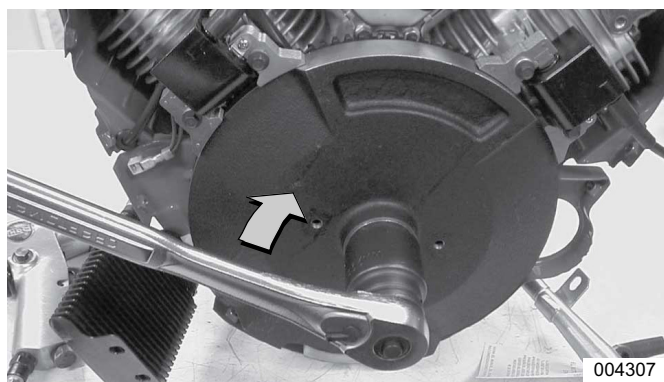

Figure 4-16. Tighten Flywheel Nut
4. See Figure 4-16. Tighten flywheel nut to 150 ft lb (204.0 Nm) torque.